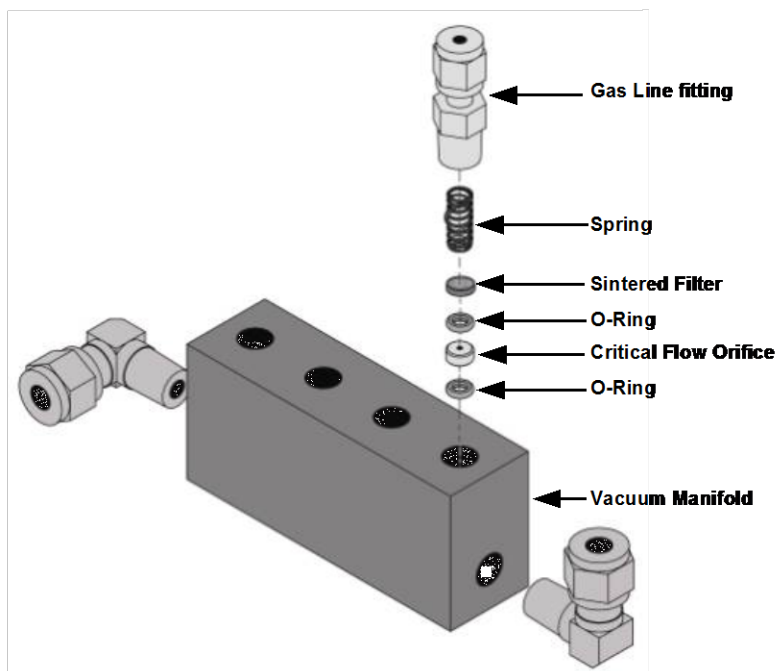

Figure 8.3 Critical flow orifice assembly
- 8.4.2 Locate the critical flow orifice on the pressure sensor assembly (Figure 8.3).